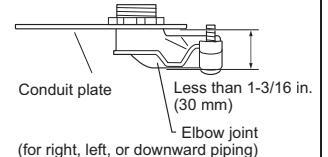

Fig. 2
- Attach conduit pipe (for rear piping) / elbow joint (for right, left, or downward piping) to conduit plate with lock nut. The thread of the installed conduit pipe / elbow joint appearing inside should be less than 3/8 in. (10 mm). (Fig. 1) Elbow joint should appear less than 1-3/16 in. (30 mm) outside. (Fig. 2)